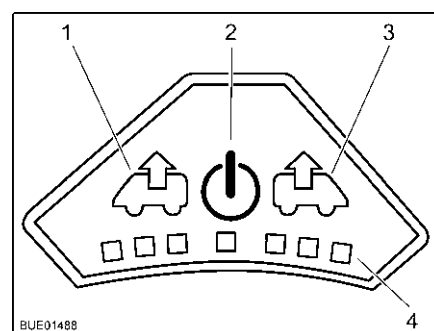

Fig. 85 Control panel for fan
Switching on: ■ Press the On/Off button (Fig. 85,2). The fan runs in comfort mode (venting at slowest fan speed).
Venting: ■ To increase the fan speed: Press the Vent button (Fig. 85,1). The fan speed in the venting direction increases by one level. LEDs (Fig. 85,4) show the operating levels.
■ To lower the fan speed: Press the Aerate button (Fig. 85,3). The fan speed decreases by one level.
Aerating: ■ To increase the fan speed: Press the Aerate button (Fig. 85,3). The fan speed in the aerating direction increases by one step. LEDs (Fig. 85,4) show the operating levels.
■ To lower the fan speed: Press the Vent button (Fig. 85,1). The fan speed decreases by one level.
Switching off: ■ Press the On/Off button (Fig. 85,2). The fan stops, the LEDs go out.